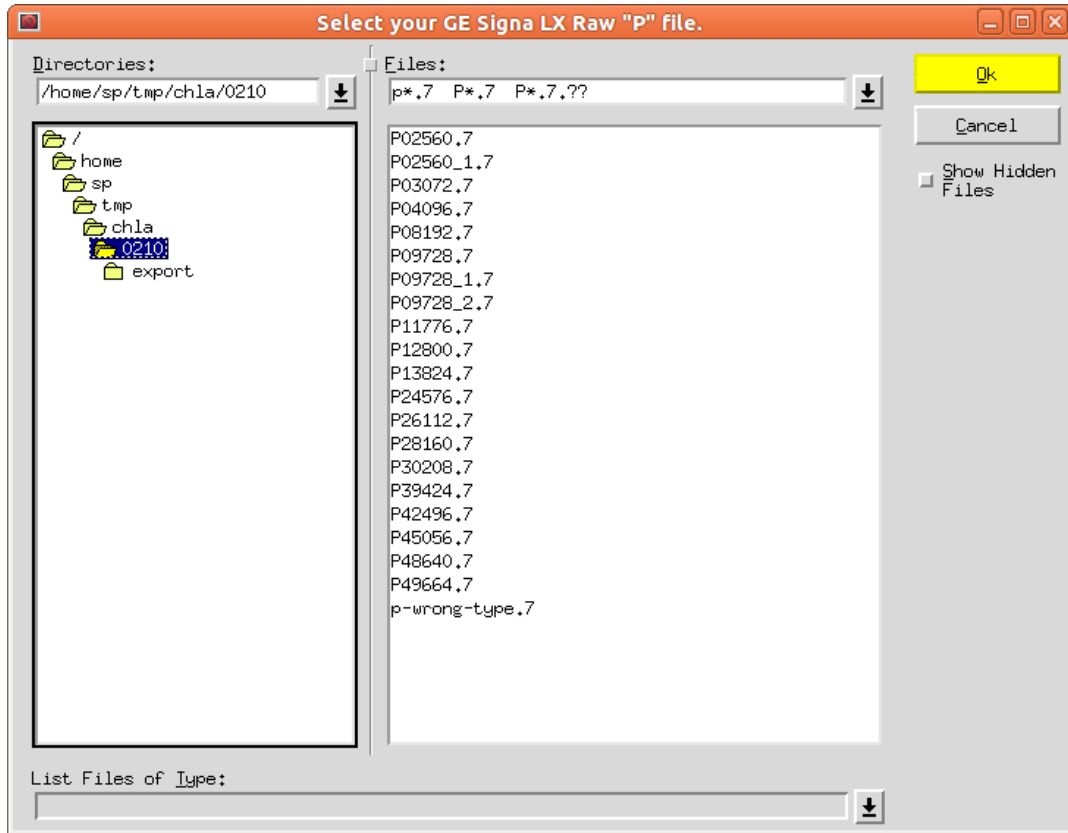
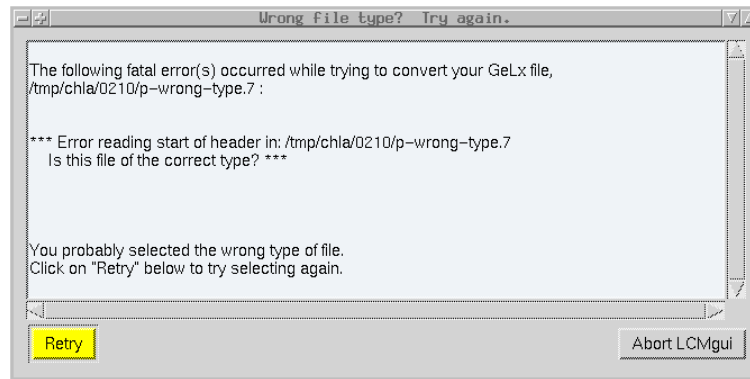
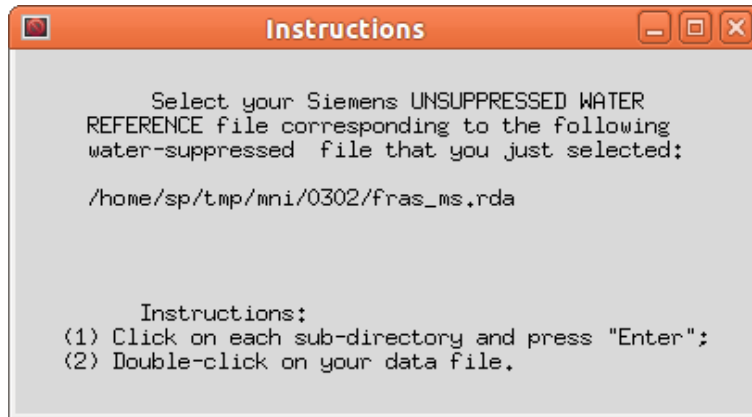

Figure 6.1: The File Selector, shown here for GE LX files
Figure 6.2: You selected a file of the wrong type in the File Selector
Figure 6.5: The instructions-part of the File Selector for the unsuppressed water reference.
- Select the file containing the data to be analyzed (Fig 6.1 in Sec 6.2.1).
When LCMgui is started, the first window that appears is usually the *File Selector*. An example with GE Signa LX data is shown in Fig 6.1. With data from other manufacturers, the title, “Select your GE Signa LX ...” will be different. LCMgui remembers the directory where the data file was in the last run, and the File Selector starts there.
You first navigate through the directory tree. When you click on a directory, its files are listed in the right pane (the stage shown in Fig 6.1). You then click on the filename that you want to use and click the yellow “OK” button at the right (or simply double-click on the filename).
Only filenames that match the filter shown at the top of the pane of filenames (p\*.7, P\*.7 or P\*.7.??) in Fig 6.1) are displayed. If your filename differs from this standard (e.g., if you analyzed GE Signa 5.x data last time and LX data this time), then it will not be listed. You can change
If the filenames or directories in Fig 6.1 are so long that they are cut off, then the width of the panes can be adjusted by holding the left mouse button down on the small square at the top on the pane boundary (between “**Directories:**” and “**Files:**”) and dragging the pane boundary. (You can also simply use the scroll bar that appears at the bottom of the pane when names are too long.)
LCMgui remembers what type of data was analyzed from this account and User Profile the last time, and it expects the same type this time. You therefore get a window like Fig 6.2 if in the File Selector you:
- Select a completely irrelevant file (e.g., `p-wrong-type.7` in Fig 6.1 to produce Fig 6.2).
Otherwise, click the yellow “Retry” button in Fig 6.2. A window like Fig 6.3 appears. Here you click on the appropriate type of data. The File Selector then returns, giving you another chance to select your data file.
**Select unsuppressed water reference file** If the “Do eddy-current correction” button is active (blue), the File Selector window appears (unless you have Marconi/Picker files or GE Probe P-files, which already contain the water reference). It is exactly as in Fig 6.1, except for the window of instructions at the upper left (Fig 6.5). As you can see from Fig 6.5, the filename of your currently selected water-suppressed data is shown, and you must select the corresponding unsuppressed data file.
- (1) **File Selector.** You select the file containing your (binary scanner) data to be analyzed with the window in Fig 6.1.
- (2) **Data Conversion.** A program is executed to produce the LCMModel .RAW file and any available Control Parameters (e.g., NUNFIL, DELTAT) from the file selected in Step (1). You can specify this program to be the standard LCMgui program for the standard Bruker, GE, Marconi/Picker, Philips, Siemens, Toshiba or Varian files (Sec 3.7). However, there is also an “Other” button to use a script supplied by you for another type of file.
- (3) **Preprocessor.** Even if you specify one of the standard programs for Step (2), you can still supply your own script in this step to modify the .RAW file or Control Parameters from Step (2). (The original default, when LCMgui is installed, is to use no Preprocessor.)